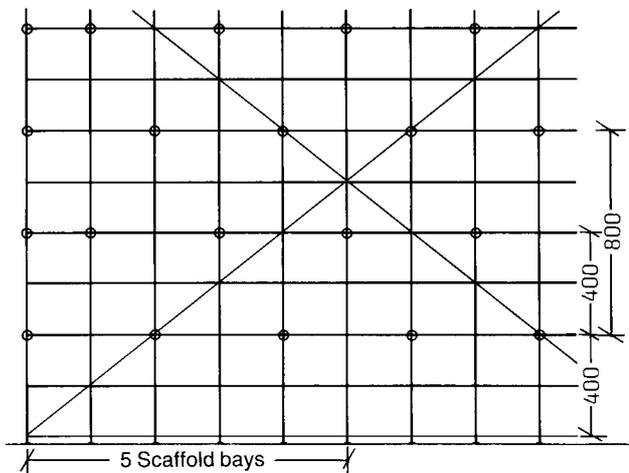

Fig. 68
- a) Continuous intersecting lines (fig. 68) or